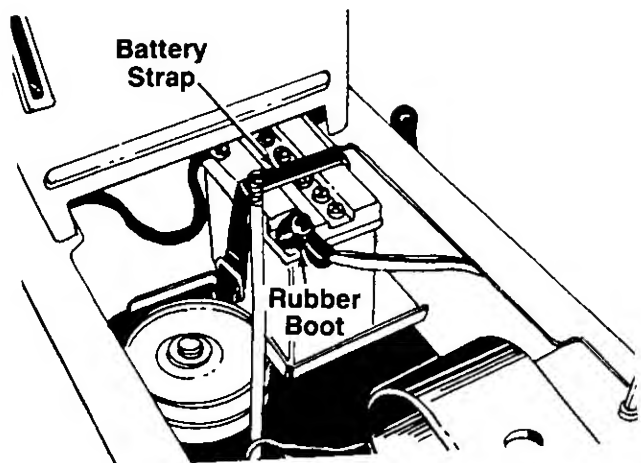

FIGURE 9.
9. Slide the battery forward into position as shown in figure 9. Secure in place with the battery strap, stretching strap over the battery and hooking into hole in the frame.
10. Slide rubber boot over the positive terminal. Bend the positive cable down, out of the way, to allow clearance for the gear shift lever and safety switch (underneath the transmission cover). See figure 9.